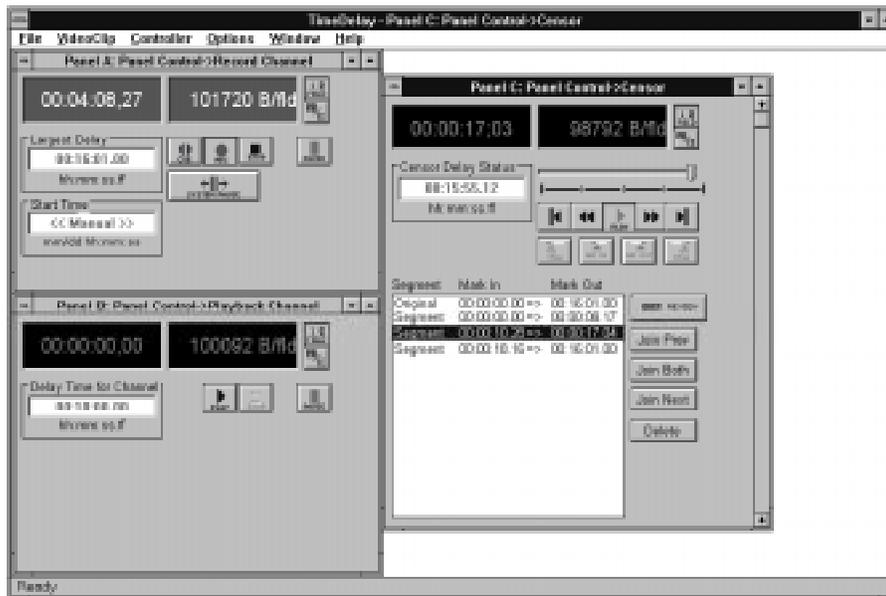

Figure 150. Censor channel
1. Start recording. On the censor channel, a clip name *Original* is added to the clip window (Figure 150). The starting timecode is 00:00:00.00 and the ending timecode is set to the **Largest Delay** value.